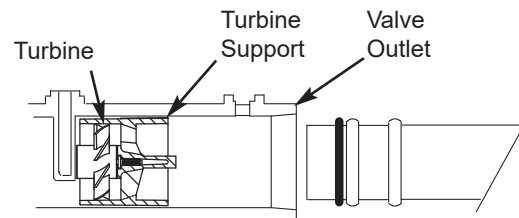

FIG. 6
- Be sure the turbine support is in place in the valve outlet, as shown in Figure 6.